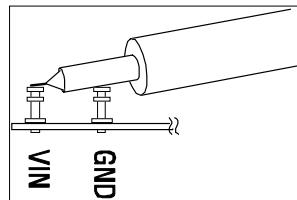

Figure 2. Measuring Input or Output Ripple
**NOTE:** When measuring the input or output voltage ripple, care must be taken to avoid a long ground lead on the oscilloscope probe. Measure the input or output voltage ripple by touching the probe tip directly across the Vin or Vout and GND terminals. See the proper scope probe technique in figure 2.
5. Set the load current of both outputs to 3A and the input voltage to 5.5V, and then measure each output ripple voltage (refer to figure 2 for proper measurement technique); they should each measure less than 30 mVAC. Also, observe the voltage waveform at either switch node of each regulator. The switching frequencies should be between 1.6 MHz and 2.4 MHz ( $T = 625$  ns and 417 ns). In all cases, both switch node waveforms should be rectangular in shape, and 180° out-of-phase with each other. Change the shunt position on header J5 to set the switch waveforms in phase with respect to each other. To operate the ckt.s in Burst Mode™ or pulse-skip mode, change the shunt in header J7. When finished, insert shunts XJP1 and XJP2 to the OFF position(s) and disconnect the power.